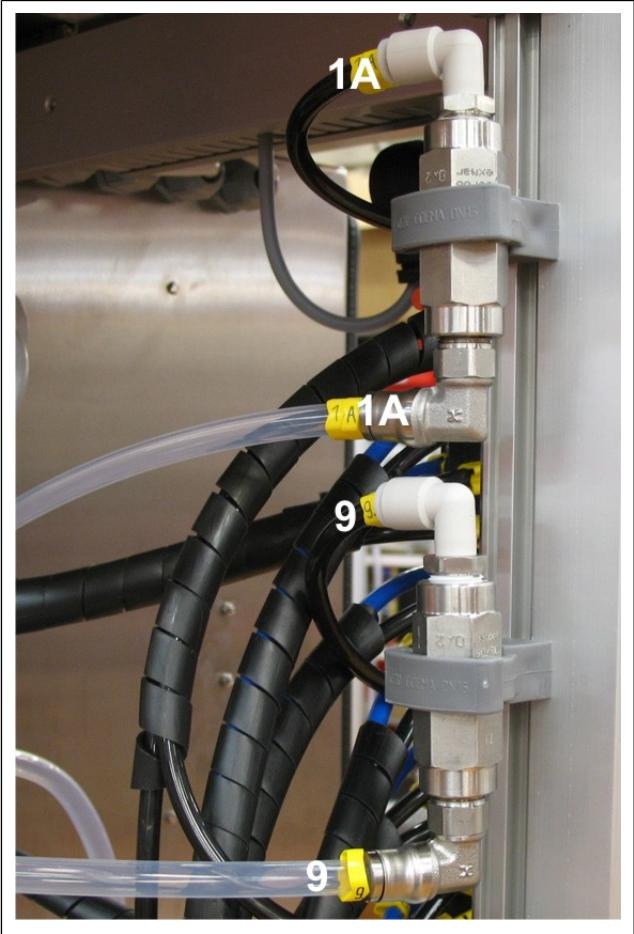

Fig. 5. Check valves.
2. Connect air tubes from check valves (Fig. 5) to air valve block, valves 1A and 9, and to the connectors in the shive screen (Fig. 6A). Plug connections 1B & 9B in the valve block.